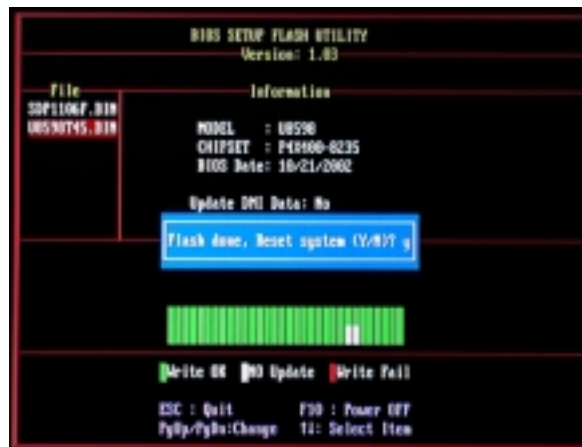

Figure 6
10. A message " Flash done, Restart System (Y/N) " will appear if the system was successfully updated the BIOS, refer to Figure 6.